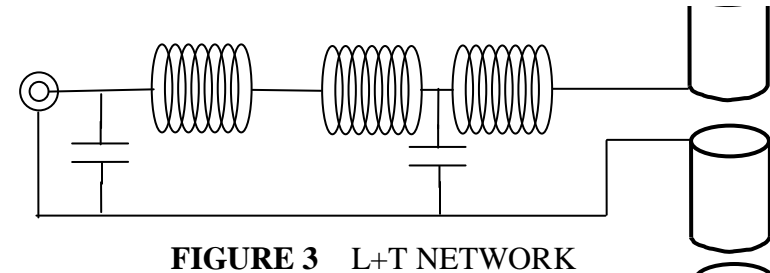

FIGURE 3 L+T NETWORK
B. L+T Network: The second iteration used an L+T network as depicted in Figure 3. Typically, the L network transforms from 50 to 25 ohms with an associated -45 degree phase shift. The T network then transformed from 25 ohms to match the impedance of the antenna and provides an additional -45 degree phase shift. In this network the capacitors may be low voltage but must have high RF current capability. This network is very sensitive to phase shift in the transmitter because it is essentially a series network where phase is concerned.
PHYSICAL DETAILS: Following an introduction to the various components (both real and imaginary) of the EH Antenna, it is now appropriate to look at the physical construction. With reference to Figure 3, there is a sketch showing the configuration of the “STAR” version.